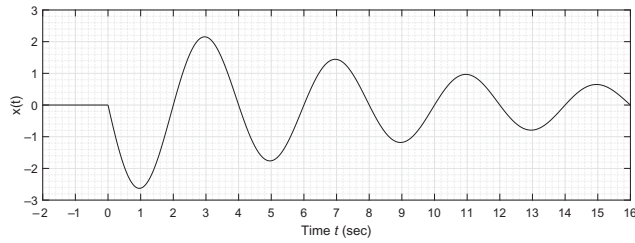

Figure 2.41 Single-mode oscillation in Exercise 2.14. Oscillation starts at time $t = 0$.
- 2.14** Consider the *single-mode* oscillation in Figure 2.41. Starting from time $t = 0$, the signal takes the following form: $x(t) = Ae^{\sigma t} \cos(\omega t + \varphi)$. Obtain the amplitude A , phase angle φ , frequency ω , and damping factor σ . You can estimate the frequency by examining the oscillation interval; such as from one positive peak to another positive peak. Other parameters can be estimated similarly by examining various aspects of the signal in the figure.